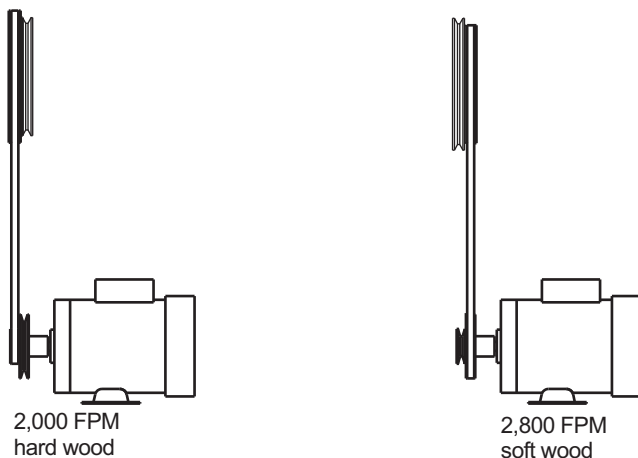

Figure 4 – Blade speeds
Refer to Figures 4, 5, 6, 7 and 8.
- To change blade speed, position V-belt in proper configuration (See Figure 4). Reposition and tension V-belt as described in the next section.
Refer to Figures 4, 5 and 6.
- See figure 4, Blade speeds, for recommended pulley and belt settings.